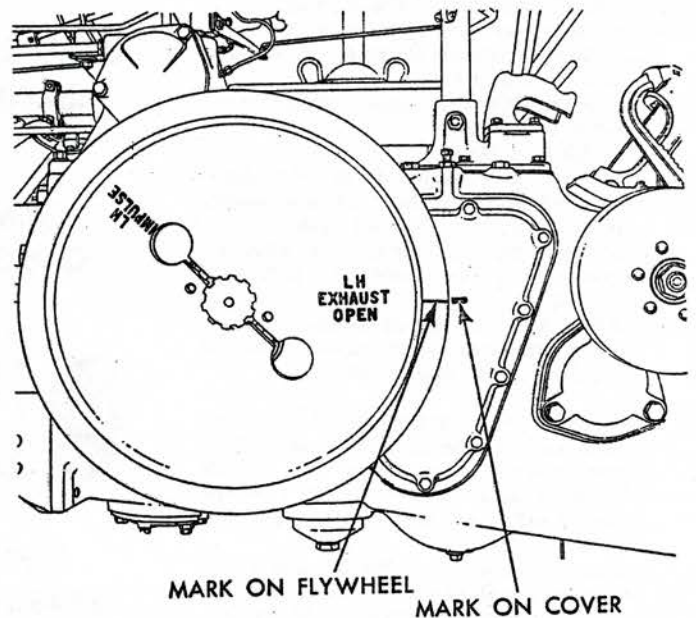

Fig. 10 Valve timing. Models A, AN, ANH, AW, AWH, B, BN, BNH, BW, BWH, C
**MODELS A, AN, ANH, AWH, B, BN, BNH, BW, BWH, G**—Valve timing is checked in the same manner as outlined above except that the flywheel mark, Fig. 10, should be in line with the timing mark on the transmission cover.